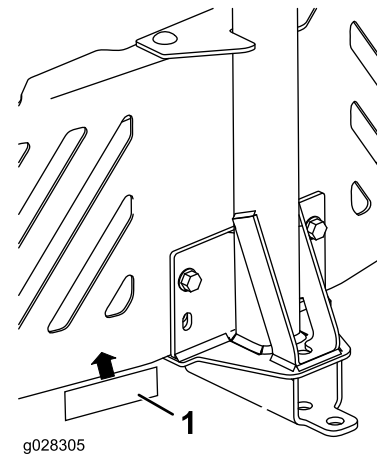

Figure 15
4. Attach the drawbar decal 1.3 cm (1/2 inch) to the left of the attachment mount (Figure 15).